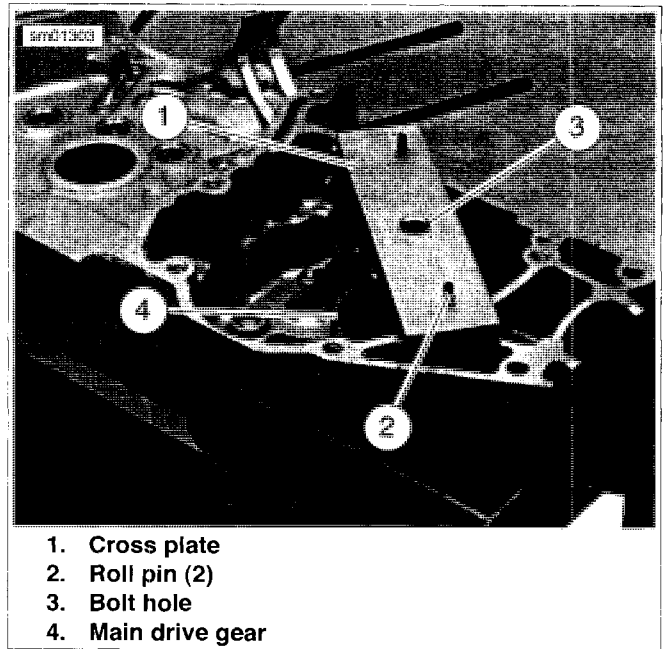

Figure 5-72. Positioning Cross Plate (typical)
3. Obtain MAIN DRIVE GEAR REMOVER AND INSTALLER SET (Part No. HD-35316-D). See Figure 5-72. Position CROSS PLATE (Part No. B-45847) (1) on right crankcase as shown. Position cross plate so that roll pins (2) fit into crankcase mating screw holes and bolt hole (3) in cross plate is centered over main drive gear (4).